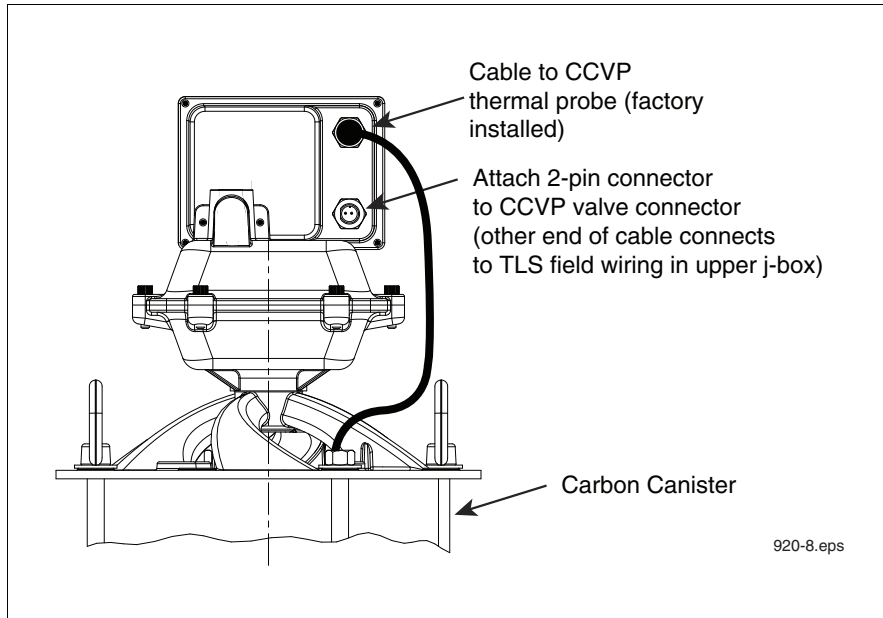

Figure 4. Locating the CCVP vapor valve connector
- Consult figure 4 along with the National Electrical Code and the compliance section of 576013-879 TLS-3XX Series Consoles Site Prep Manual before installing the CCVP into the hazardous location. If the Carbon Canister is being wired directly to a TLS console, a 2-conductor, 18 AWG shielded cable must be installed in intrinsically safe conduit from the intrinsically safe wiring compartment of the TLS console to the carbon canister. Use of direct burial cable may be subject approval by the local authority having jurisdiction. See manual 576013-858 for a complete listing of required materials and an overview of direct burial installations.
11. Connect the two-pin connector of the 6-foot cable provided in the installation kit to the CCVP vapor valve, observing plug polarities (see Figure 4). The other end of this cable is passed through a kit supplied cord grip in the upper junction box.